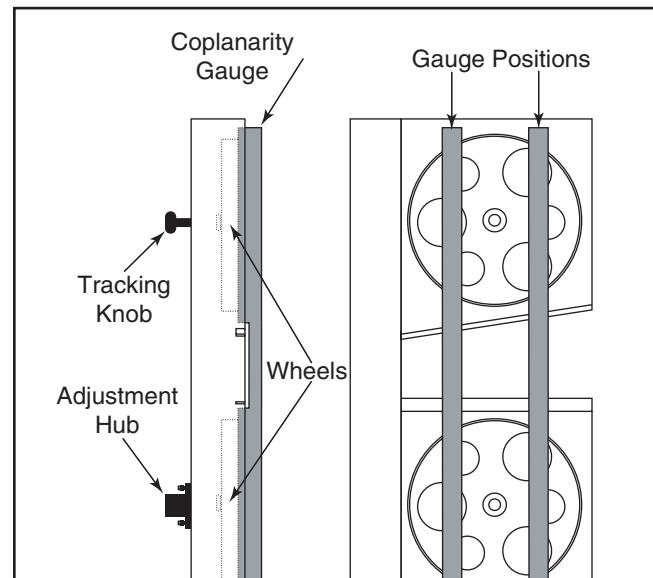

Figure 67. Checking for coplanarity.
6. Place your coplanarity gauge up against both wheels in the positions shown in **Figure 67**.